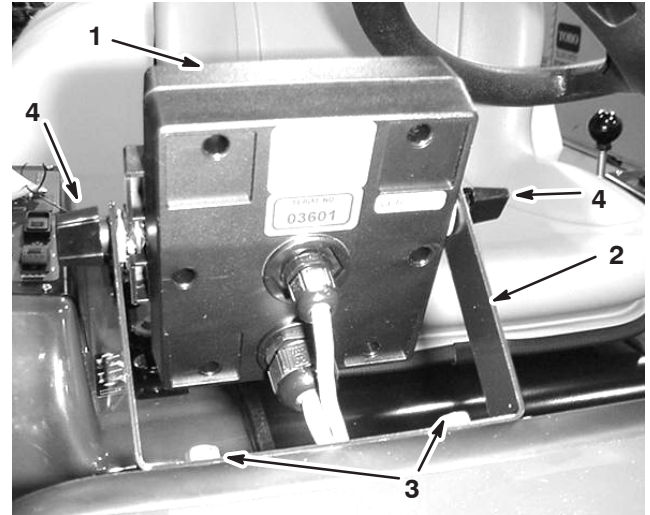

Figure 3
1. Install the monitor bracket on the dash (Fig. 3) using 2 flange-head bolts (1/4 x 3/4 inch) and 2 flange nuts (1/4 inch).
2. Loosely install the 2 carriage bolts, rubber washers, and knobs on the bracket as illustrated in Figure 3 and 4.
6. Install the Spray Pro monitor over the carriage bolt heads (Fig. 3) and tighten the knobs to secure it.